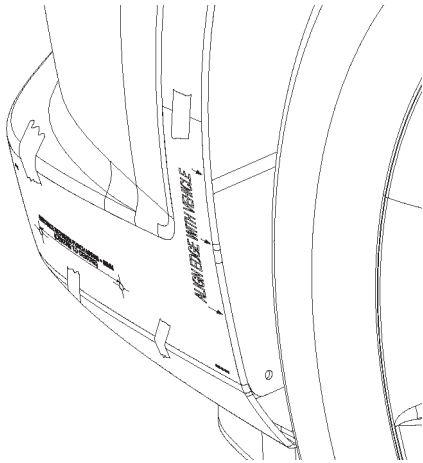

FIGURE 33
7. Align template, tape to vehicle fascia, mark the 2 hole locations using centre punch, remove template, and drill (2) 3/16" holes into vehicle fascia. Refer to figure 33.